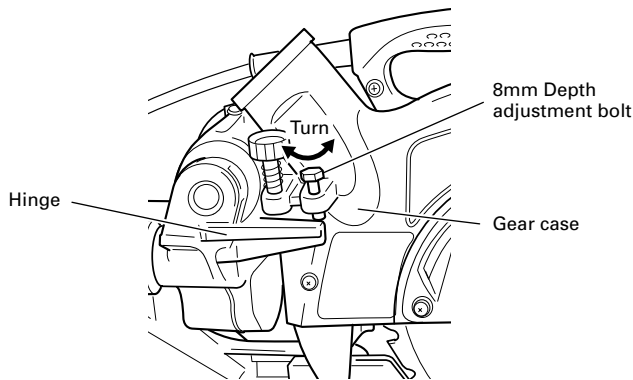

Fig. 10-b
**NOTE:** When cutting a workpiece exceeding 2-9/16" (65mm) in height in right-angle cutting or 1-25/32" (45mm) in left bevel angle cutting or 2-3/8" (60mm) in right bevel angle cutting, adjust the lower limit position so that the base of the motor head (see Fig. 10-a) will not come in contact with the workpiece.